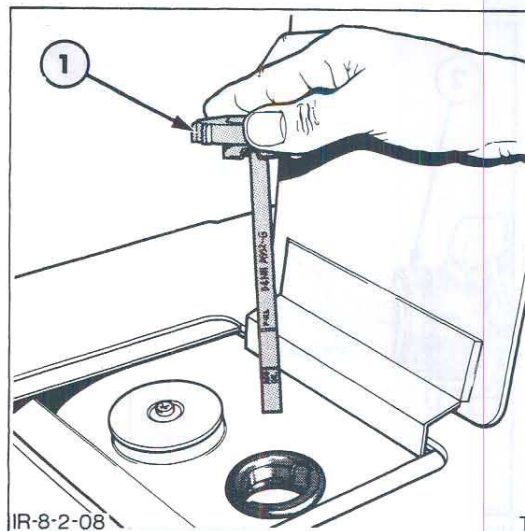

Figure 8
- With the engine switched off, the loader resting on the ground and the backhoe in the transport position, check the oil level with the combined filler cap/dipstick, Figure 8. If necessary, add hydraulic oil as required.